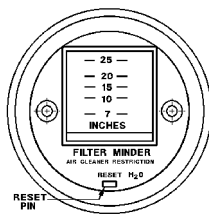

FIGURE 2-3.
9.	AIR CLEANERS - Check the air cleaner vacuum gauges in the operator cab, Figure 2-3. The air cleaner(s) should be serviced if the gauge(s) shows the following maximum restriction: Komatsu SSDA16V160 Engine: 25 in. of H ₂ O vacuum. Refer to Section C in the service manual for servicing instructions for the air cleaner elements. Empty the air cleaner dust caps. NOTE: After service, push the reset button on face of gauge to allow the gauge to return to zero.